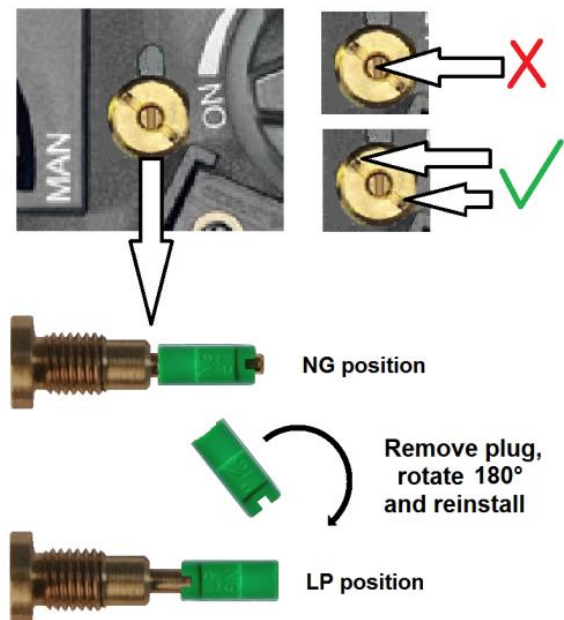

Figure 5 – Outlet Pressure Screw
- 4) Turn the turn the outlet pressure screw housing counter-clockwise to remove (see Figure 5). **Be careful not to engage the small flat slot in the center of the screw itself but use only the larger slot of the screw housing to remove the unit. Do not strip the shoulders!**
- 5) With the screw assembly removed from the valve, grasp the plastic spacer on the screw end and gently pull to remove (use caution to not rotate the shaft to which the spacer is mounted). See Figure 5.
- 2) By pushing down on the front of the valve and control system assembly, swing the system down to expose the low pressure orifice (Figure 5).